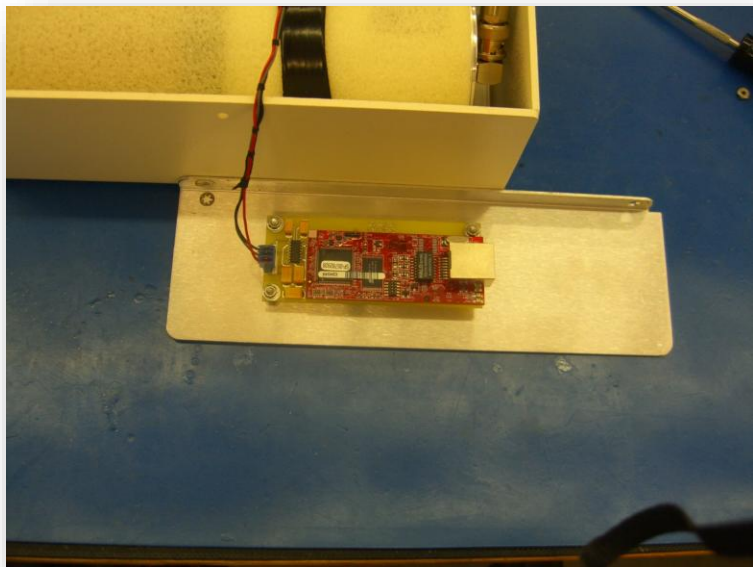

Figure 46 – Internal Rabbit Ethernet Board
3. Remove the two nuts from the corners of the bracket holding the Ethernet board. See Figure 46.